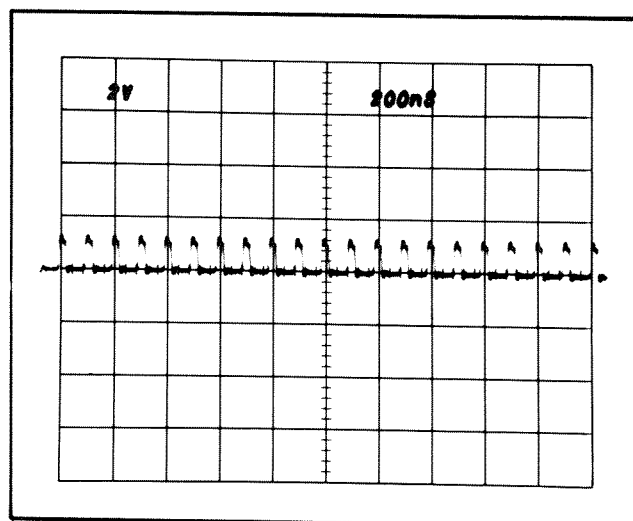

Fig. 5-8. CRT display showing correct 0.2 μs timing.
- c. CHECK—CRT display for two markers each division over the center eight divisions. Check that sweep timing is within 0.16 division (2%) over center eight divisions. See Fig. 5-8.